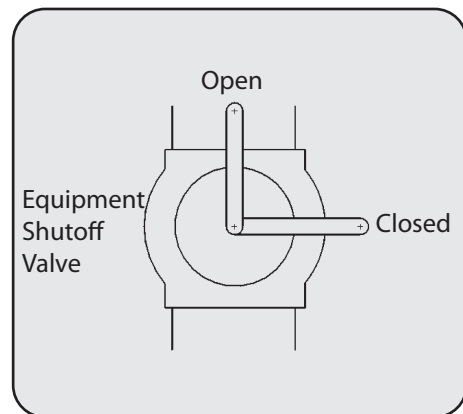

Figure 12
1. The appliance must be isolated from the gas supply piping system by closing its equipment shutoff valve during any pressure testing of the gas supply piping system at test pressures equal to or less than 1/2 psi (3.5 kPa). See Figure 12.
3. Open equipment shutoff valve. See Figure 12.